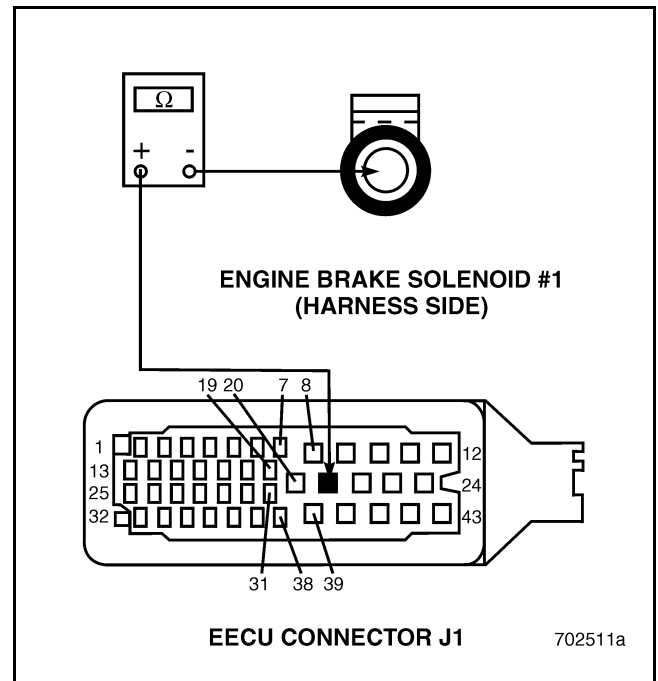

Figure 421
4. Check for continuity between EECU harness connector J1, pin 21 and the terminal of the Engine Brake Solenoid #1 harness connector (see Figure 421).